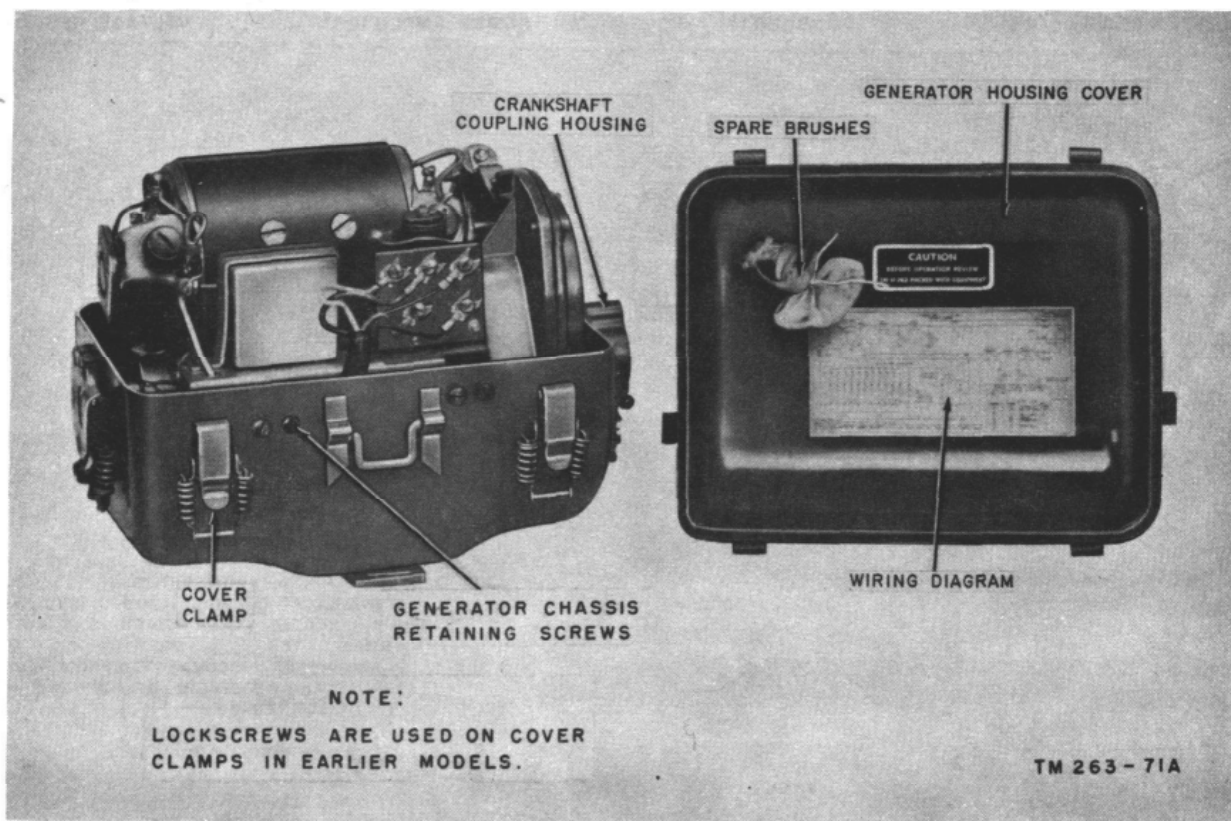
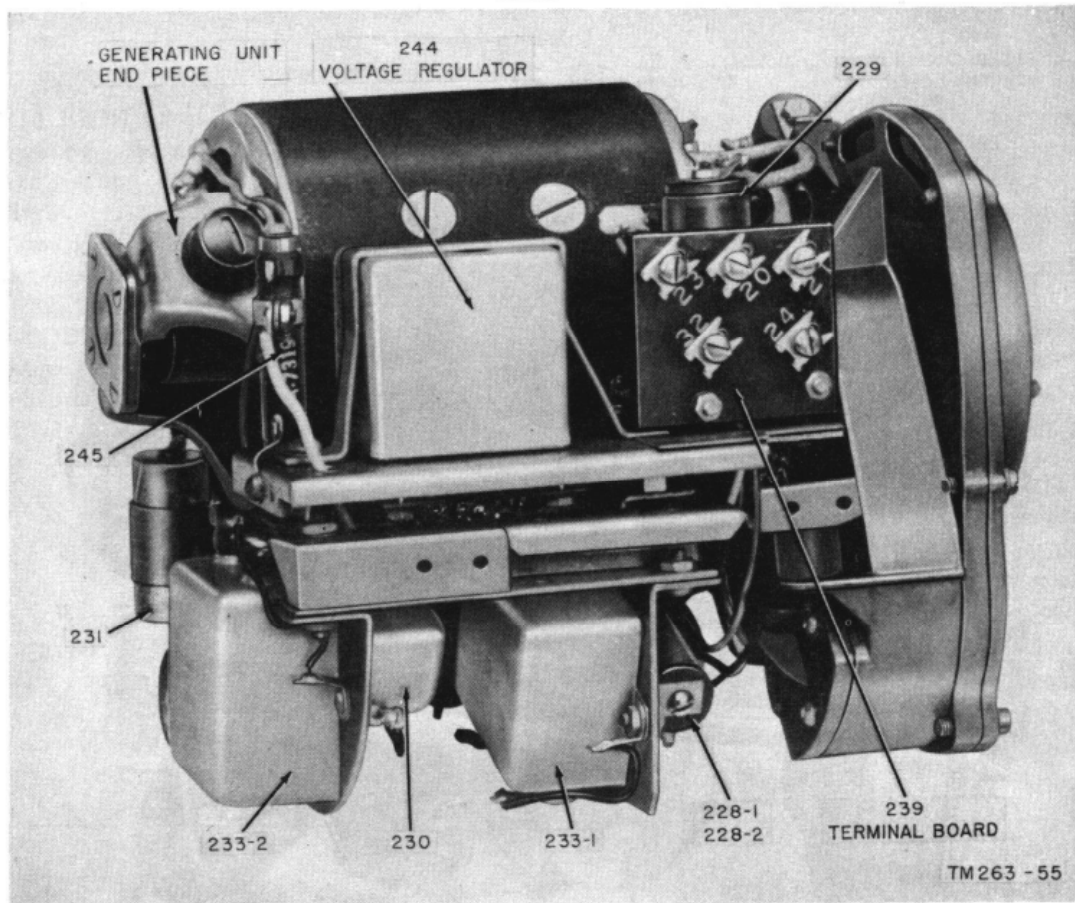

Figure 126. Generator GN-58-(\*), top cover removed.
Figure 128. Generator GN-58-A, parts location (front).
ing the cover clamps, the top of the housing should come off easily when lifted straight up. Figure 126 shows Generator GN-58-A with the top cover removed. Next, loosen the screw which holds the terminal strip insulating cover in front of panel board 239 (fig. 128). This will expose the terminal board, and all voltage measurements can be made at full or no load,
- h. Remove the terminal strip insulating cover from in front of panel board 239, exposing the spade lug connections on the board (fig. 126).
- j. Remove the chassis retaining screws around the top of the lower half of the housing (fig. 126).